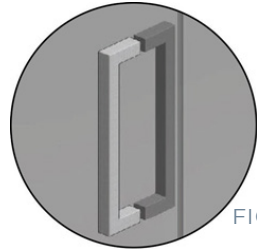

FIG.21
- Install the door handle with grub screws on outside of shower (FIG 21).